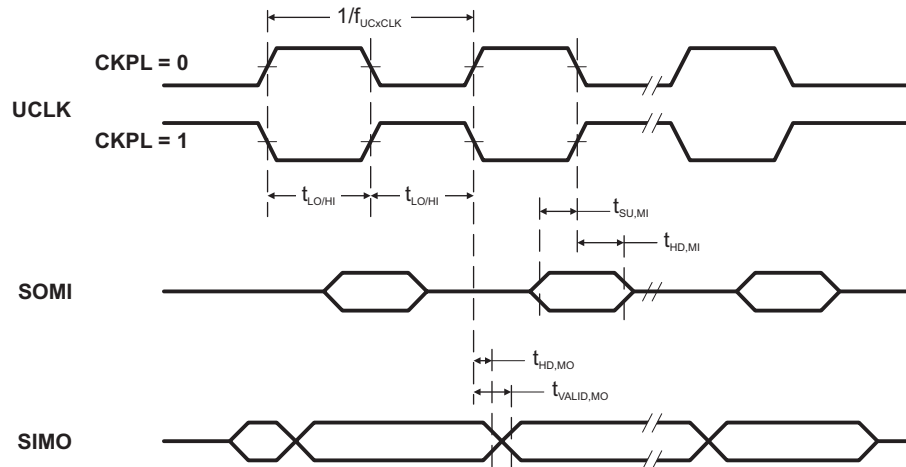

Figure 11. SPI Master Mode, CKPH = 0
(see Note ⁽¹⁾, Figure 11 and)
- (2) Specifies the time to drive the next valid data to the SIMO output after the output changing UCLK clock edge. See the timing diagrams in Figure 11 and .
- (3) Specifies how long data on the SIMO output is valid after the output changing UCLK clock edge. Negative values indicate that the data on the SIMO output can become invalid before the output changing clock edge observed on UCLK. See the timing diagrams in Figure 11 and .